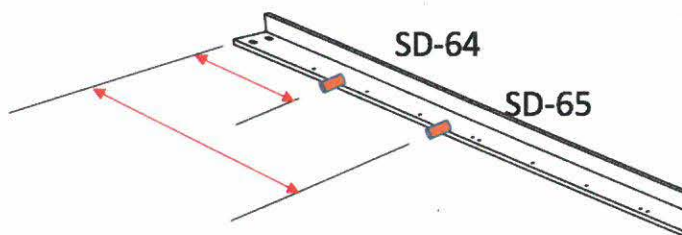

Figure 3-3 Installed measurements
- g. Measure distance from lower end of T-bar (datum B on drawing 150801MRA183) to center of can of each "as-installed" diode. (note: these numbers will be different than the installed distances on drawing 150801MRA180.) Example of measurement is shown in red in Fig 3-3 below.